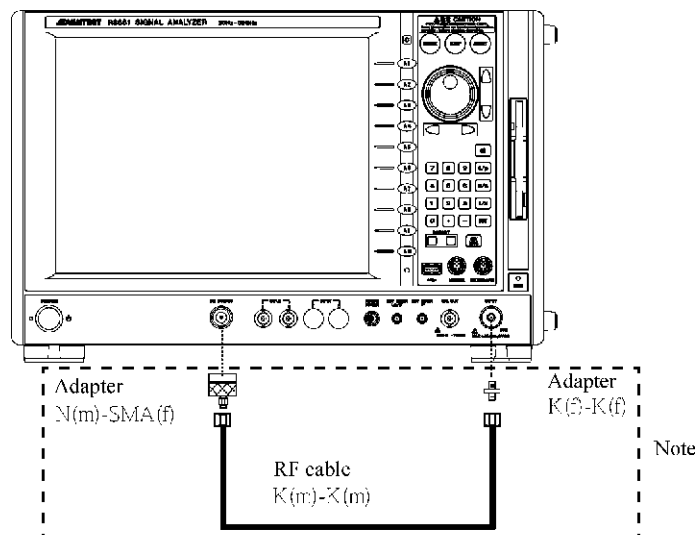

Figure 8-30 SSB Phase Noise Verification Connection Diagram
2. Connect the instrument as shown in Figure 8-30.